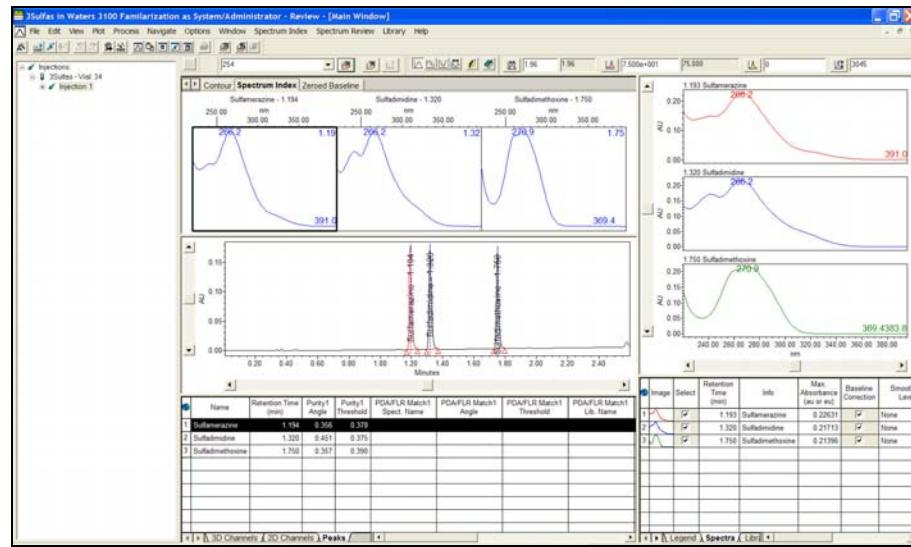

Figure 160 - Spectrum Index
**NOTE:** The corresponding spectra above the peak with the same spectra in the spectrum review are shown on the right-hand side. The Review window will be displayed as in Figure 160.